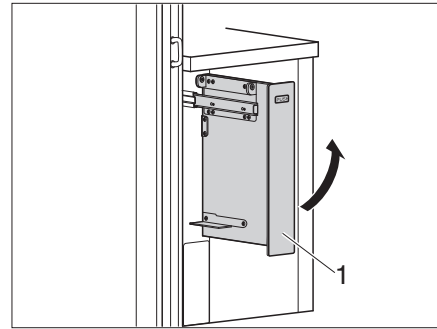

Fig. 129 Swing the extension upwards
- Swivel the extension (Fig. 129,1) upwards.
- Swivel the extension (Fig. 129,1) downwards.